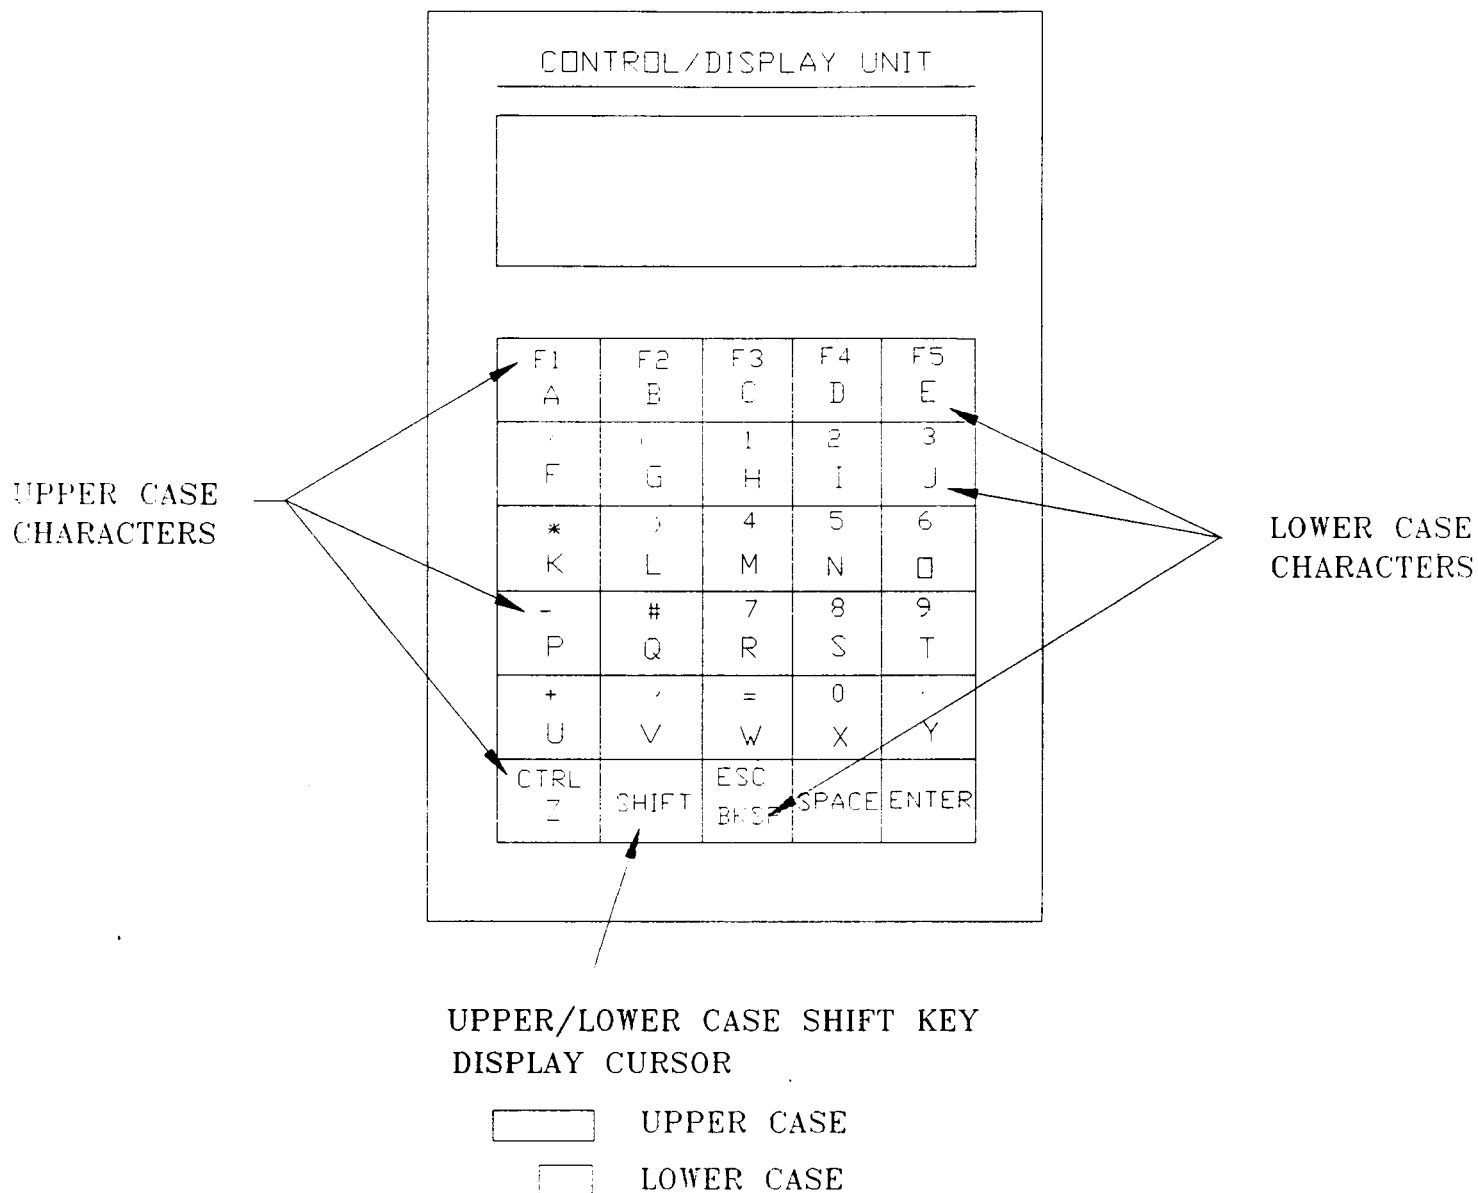

Figure 6-1: Outline of the TFX Hand Held Terminal Option (S/N EFK164) for Unidex 1
Aerotech provides three control interface options for the Unidex 1 Controller. These are the TFX Hand Held terminal, the Thumbwheel Programmer (TP) and the Thumbwheel Indexer (TI). These options are outlined in Figures 6-1, 6-2, 6-3 and 6-4 respectively.
The TFX Hand Held terminal (Figures 6-1 and 6-2) is supplied with a cable that is designed to plug into the Communication Interface Connector, Port A, of the Unidex 1 (see Item 2-3-1). No additional interconnect wiring is required. The TFX Hand Held terminal receives its power directly from Unidex 1.
Two configurations of the TFX Hand Held terminal are currently being supplied. Functionally the two terminals are identical however slight differences exist on the keypad (see Figures 6-1 and 6-2).